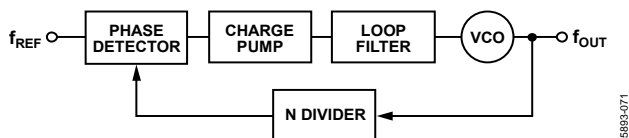

Figure 71. Basic PLL
A PLL is a feedback system that combines a phase detector (PD), a loop filter, and a voltage controlled oscillator (VCO) that is so connected that the oscillator maintains a constant frequency (or phase angle) relative to the reference signal. The functional block diagram of a basic PLL is shown in Figure 71.